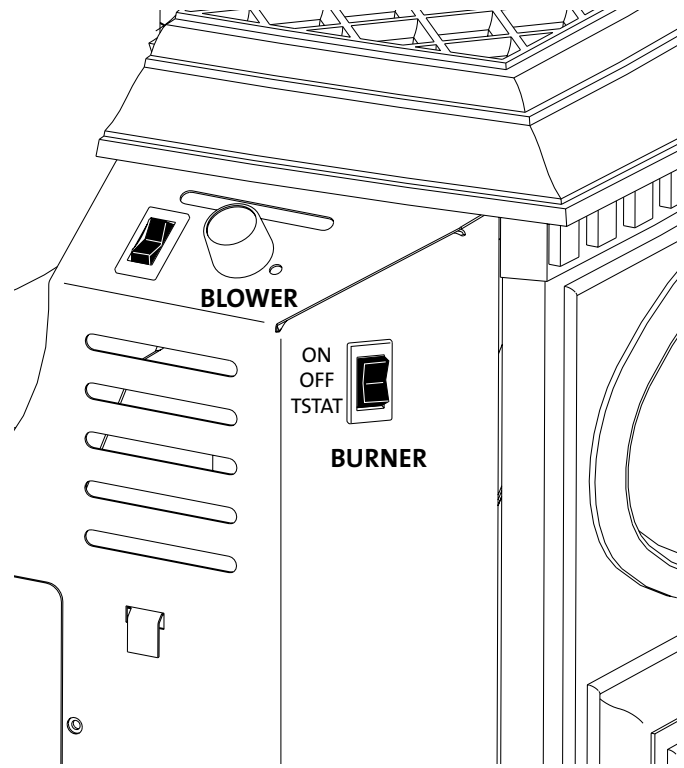

Figure 39. Burner Switch and Optional Blower Controls
- Once the pilot is lit, burner operation is controlled by the rocker switch located at the left corner of the rear shroud. See fig. 39.